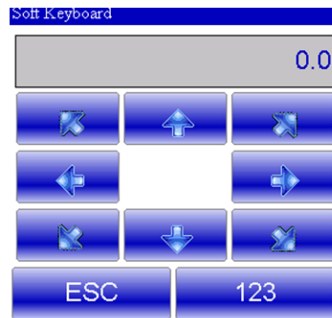

Figure 27 Soft Keyboard for setting the angle of the piece
- After having pressed "OK" automatically you move to the next field, the "alfa" polar drawing data. Pressing with a finger on this field the angles "Soft Keyboard" appears, like showed in figure 27